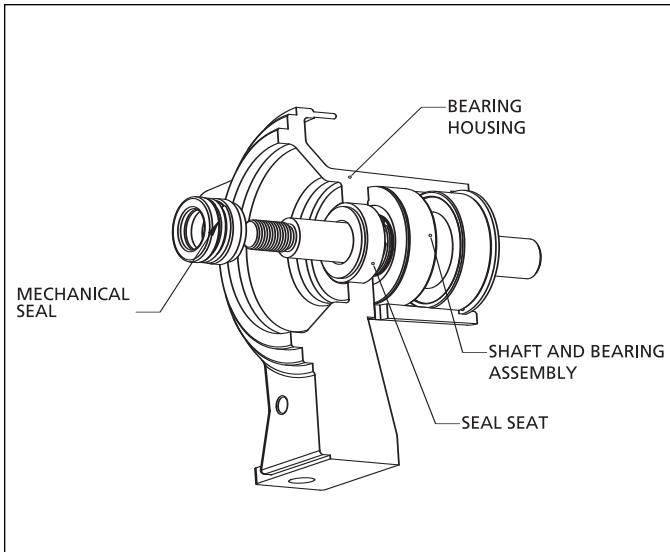

Figure 4 - Seal Removal
4. The seal (part of Ref. No. 5) can now be pulled from the shaft (see Figure 4).
Seal Assembly Removal and Installation (Figures 4 thru 7)